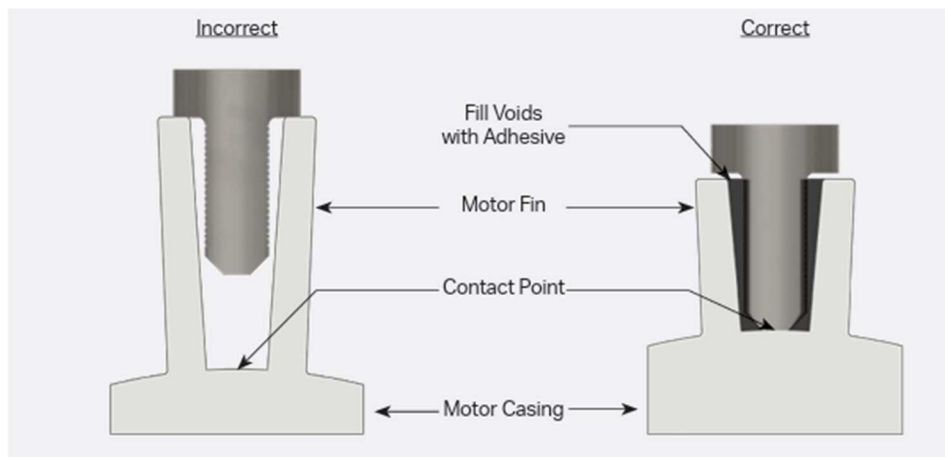

Figure 9.- Motor fin mount pad – Procedure installation
- a. Avoid placing the motor fin mount pad on the top of the fins, since this may prevent direct contact with the motor casing (see below Figure 9, left).
- b. The motor fin mount pad tip should be as flat as possible against the motor casing (see Figure 9).